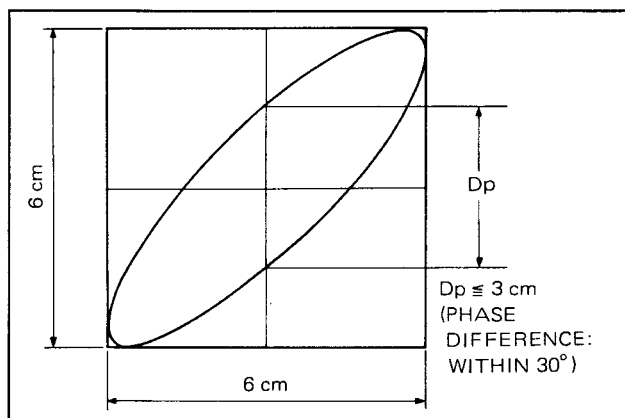

Fig. 10-32. Audio/CTL R/P Head Azimuth Adjustment of Audio 15 kHz Playback
6. Check that the phase difference between AUDIO-1 and AUDIO-2 is within 30 degrees. See Fig. 10-32.